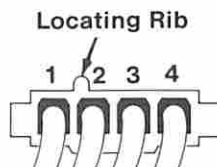

Figure 3. Diskette Drive and Fixed Disk Drive Voltages
- Check the diskette drive and fixed disk drive power connectors for the correct voltages (see Figure 3).